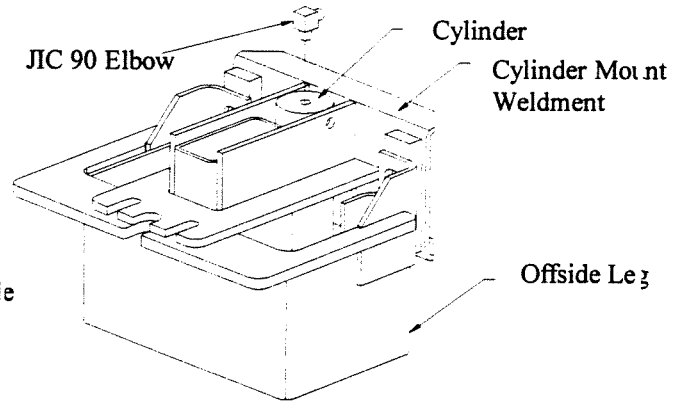

FIGURE 6
10. Attach a male pipe thread to male JIC 90 elbow to top opening of the offside leg cylinder. The elbow should face to the inside of the leg. Figure 6 on previous page.